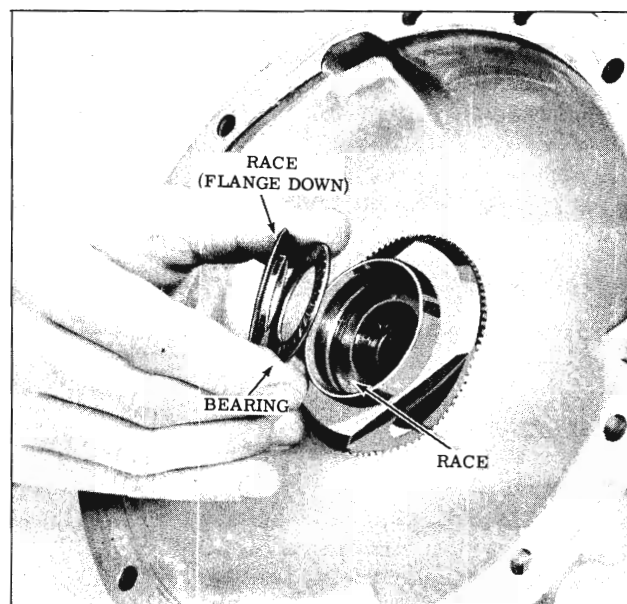

Fig. 3-115 Installing Bearing and Races
13. Install bearing into flanged race, coat with petrolatum and install into torus cover with flanged side down. (Fig. 3-115)